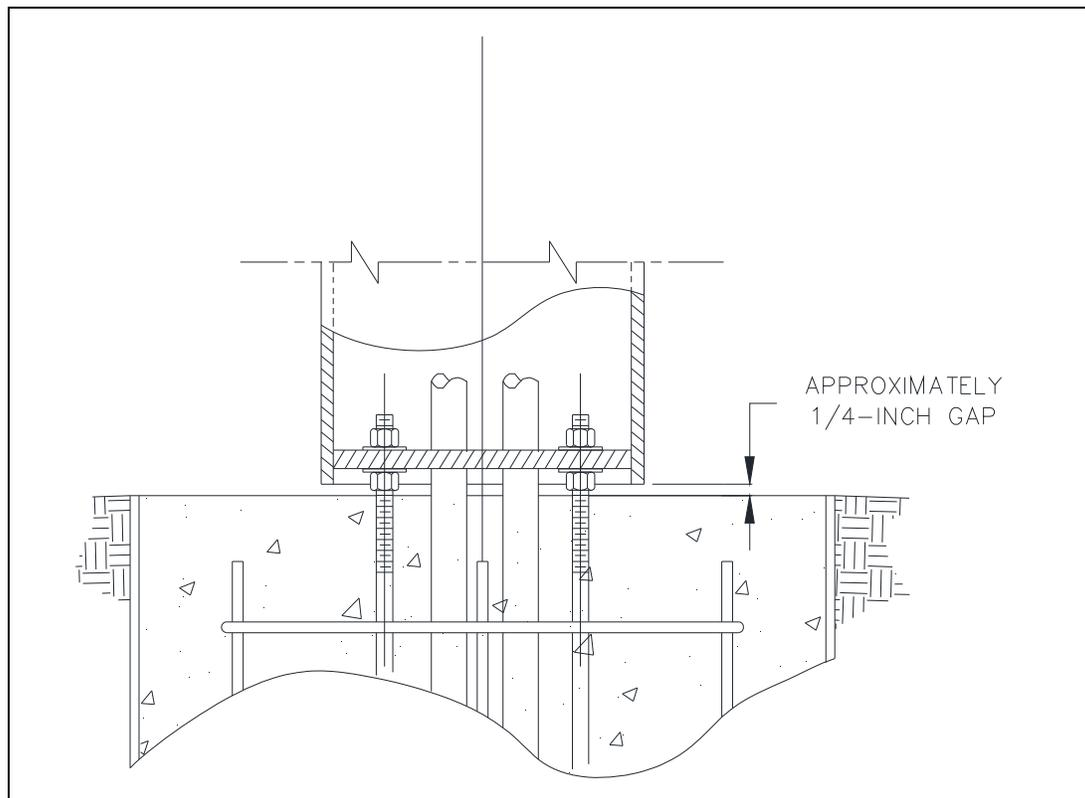

Figure 7. Assembled View
2. Place the tower on top of the four level hex nuts with washers. **Verify that a 1/4-inch minimum air gap exists between the base of the tower and the top of the concrete pier.** See Figure 7. This air gap must not be obstructed with soil, mulch, stone, etc. Failure to maintain this air gap will cause moisture entrapment that will result in corrosion.